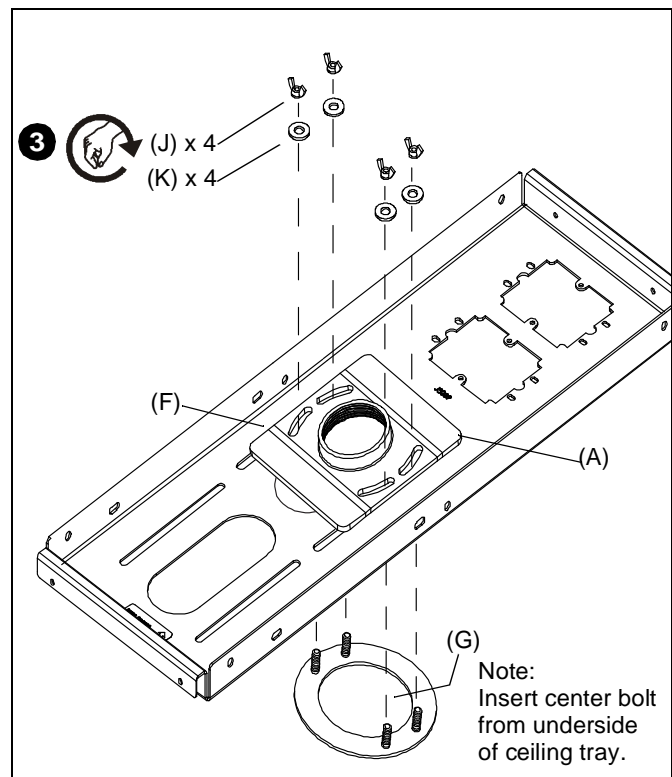

Figure 3
3. Assemble ceiling plate bracket (F) and center bolt bracket (G) to ceiling tray (A) with four wing nuts (J) and four flat washers (K). (See Figure 3)
4. Lay ceiling tray (A) on top of ceiling tile so that extension column support is aligned with location noted in Step 1.